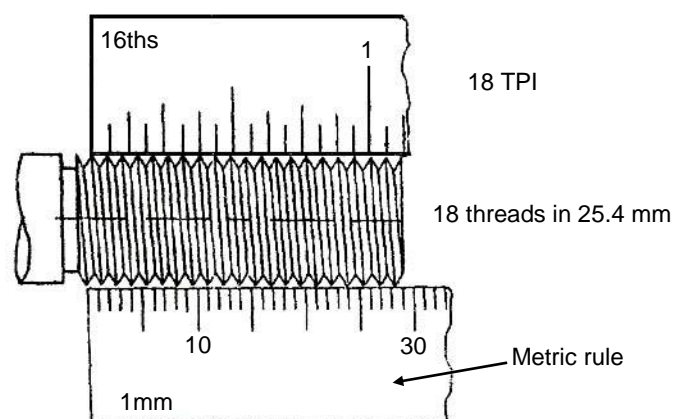

FIG 4.
The term TPI means the number of threads that can be counted over a distance of one inch (1") or 25.4mm, when measured with a steel rule. (Fig 4)
C. It will be noted in Fig 4 that 18 threads can be counted over a distance of one inch. (25.4mm)